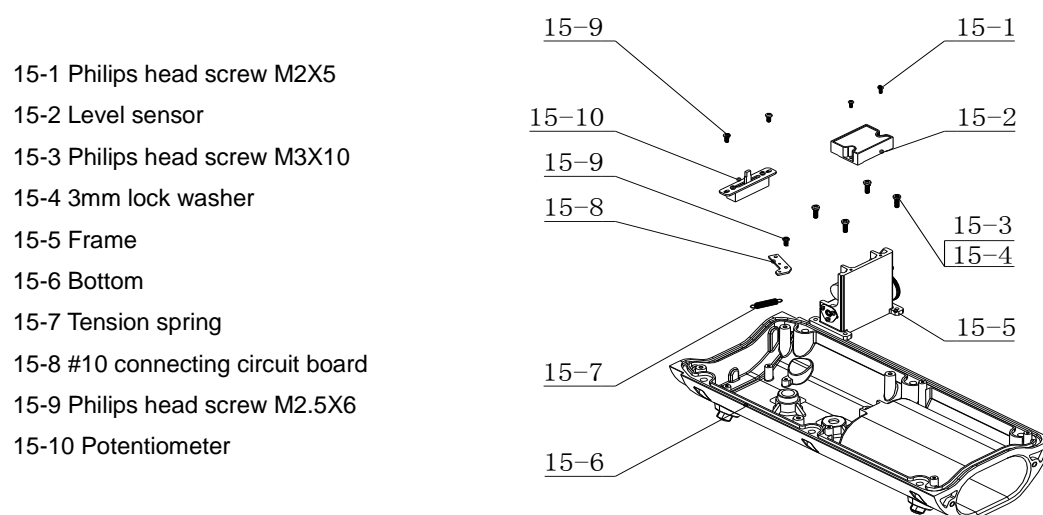

Figure 4. Disassembly of bottom
- c Socket: Left and right sensor (15-2 level sensor in figure 4) plug
- e Socket: Left and right potentiometer (15-10 potentiometer in figure 4) plug
k Socket: motor (assembly on 15-5 frame in figure 4) plug